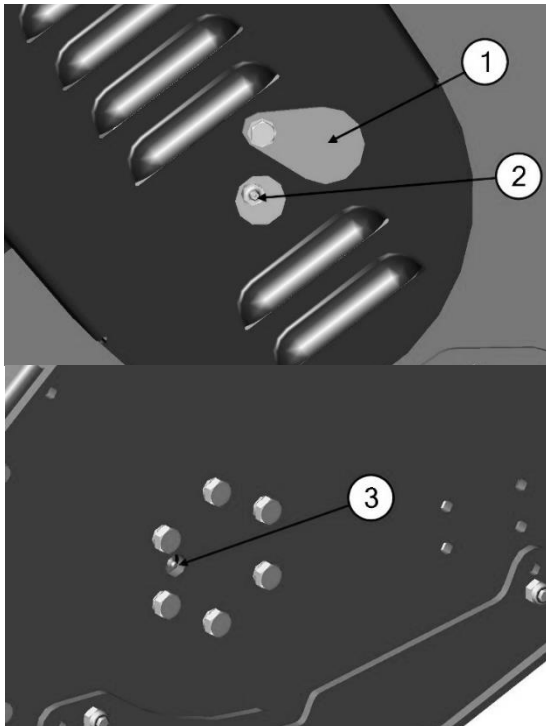

Figure 11
1. On the left side of the attachment on the transmission case, turn the cover [Figure 11, Item 1], and thoroughly clean the grease zerk [Item 2].